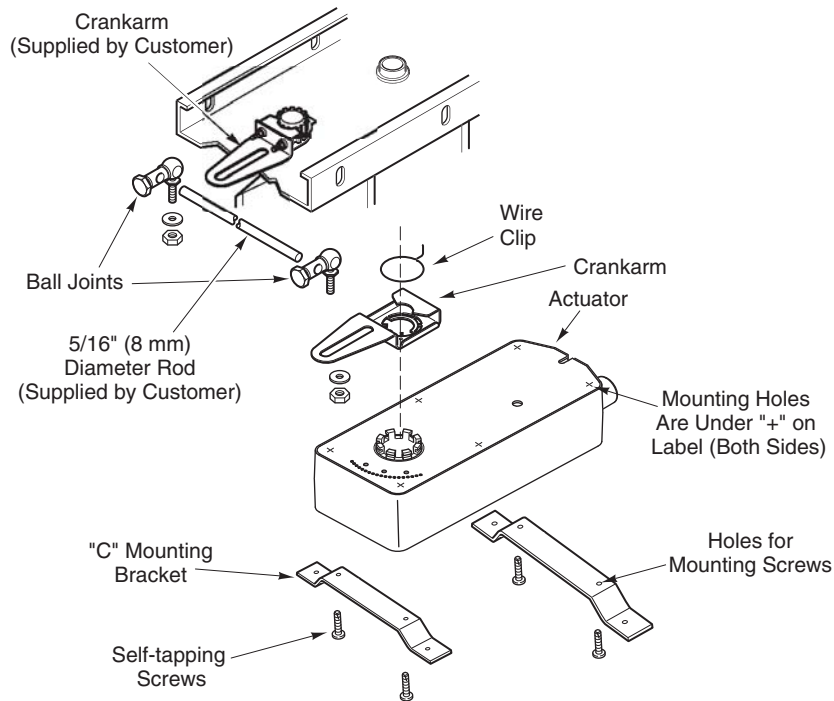

Figure-2 Installation of AM-693 Damper Linkage Kit.
4. Locate the pre-drilled mounting holes on the actuator label that are covered by a white "+" sign. See Figure-2.
6. Use the #10 self-tapping screws to secure the two "C" brackets to the actuator. See Figure-2.